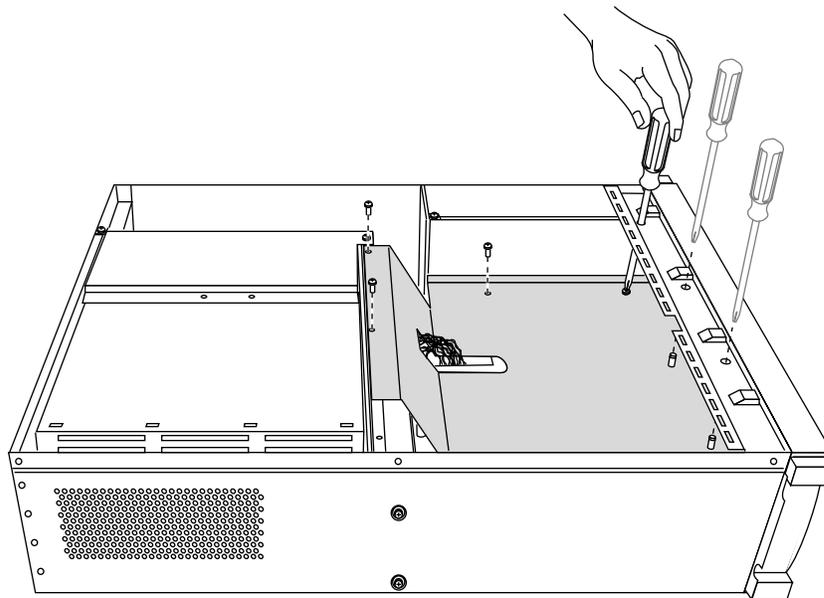

Figure 5-29 Removing the Power Supply Shroud Screws
- Remove the four sheetmetal screws indicated in Figure 5-29.
- Undo the two captive screws indicated in Figure 5-29.
5. Attach the captive screws, then install the four sheetmetal screws indicated in Figure 5-29.